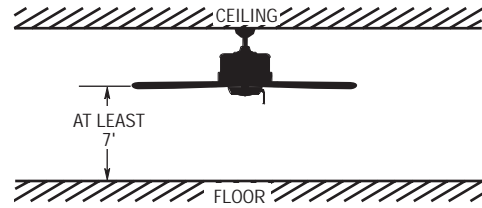

Figure 6
**The fan must be hung with at least 7' of clearance from floor to blades (Figure 6).**